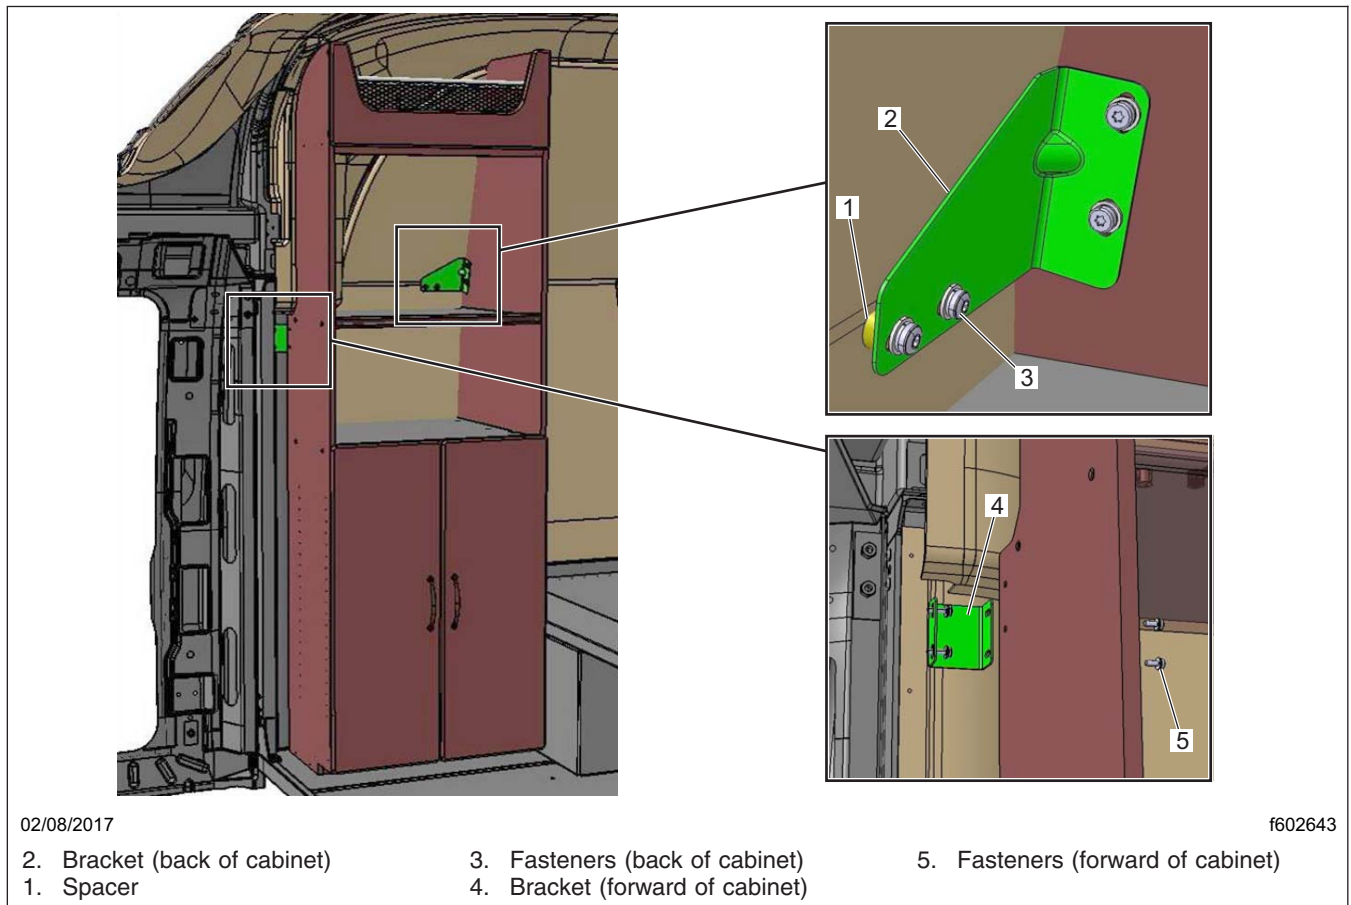

Fig. 6, RH Cabinet Installation
- 5.1 Remove the screws, washers, and spacers at the bracket in the back of the cabinet. See Fig. 6.
- 30.2 Install the screws, washers, and spacers at the bracket in the back of the cabinet. See Fig. 6.